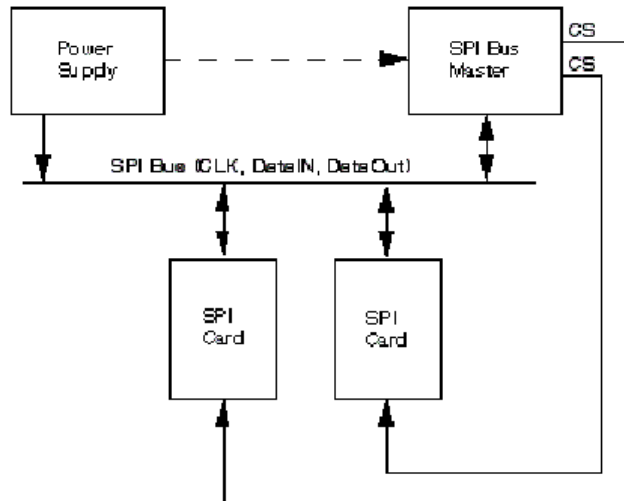

Figure 8: Industrial Grade SD Card Bus System
The Industrial Grade SD Card identification and addressing algorithms are replaced by a hardware Chip Select (CS) signal. A card (slave) is selected, for every command, by asserting (active low) the CS signal (see Figure 8). The CS signal must be continuously active for the duration of the SPI transaction (command, response and data). The only exception is card programming time. At this time the host can de-assert the CS signal without affecting the programming process.